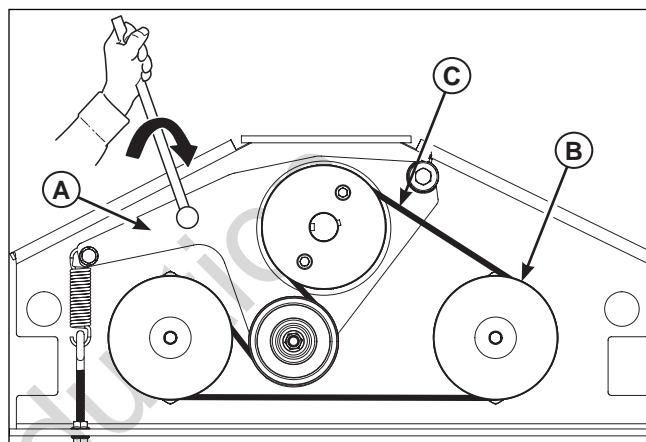
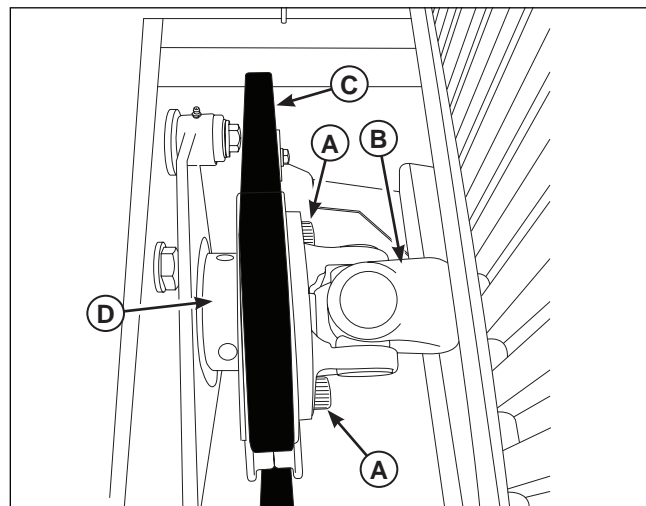

Figure 55. Removing the Tension on the Belt
Figure 56. Removing the Spindle Shaft
3. Using a 1/2" breaker bar, place the square end in the square hole located in the end of the idler arm (A, Figure 55). Carefully rotate the breaker bar **CLOCKWISE**, which will relieve the tension on the belt exerted from the idler arm.
4. Slide the drive belt over the edge of the right pump drive pulley (C). Carefully release the tension on the breaker bar.
5. Loosen and remove the two drive shaft collar bolts (A, Figure 56) from the drive shaft universal joint (B).
6. Pull the drive shaft universal away from the drive shaft spindle (D) and pivot out of the way.
7. Remove the old belt (E) and replace with a new one. Install the belt on the left pump drive pulley and the drive shaft spindle pulley. Make sure the V-side of the belt runs in the pulley grooves (Figure 55).
8. Using the two (2) drive shaft collar bolts (A) reinstall the drive shaft universal joint to the drive shaft spindle.
9. Install the drive belt on the idler arm pulley and check to make sure that the V-side of the belt runs in the pulley grooves. See Figure 55.
10. Carefully rotate the breaker bar **CLOCKWISE** and install the belt on the right pump drive pulley (B, Figure 55). Carefully release the tension on the breaker bar.